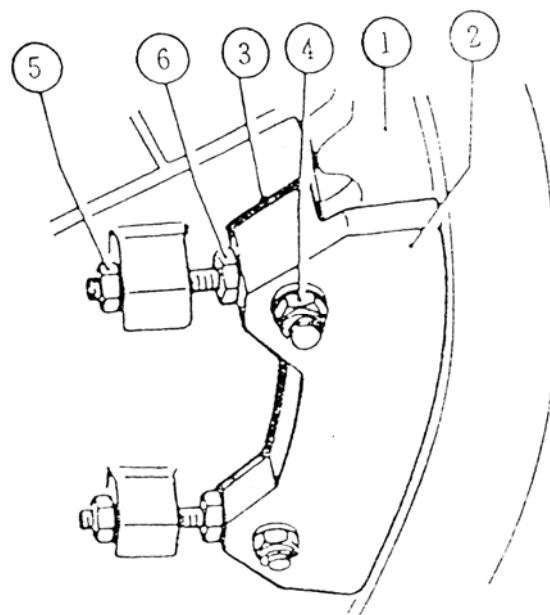

Fig. 58
8.9.4 Adjust the blade rotation circle (Fig 58)
1. Measure axial plays between the circle (Fig 58/1) and all four guides (Fig 58/2) by means of a feeler gauge. The play is 0.6-0.8mm(Fig.58/3)
2. Remove all 4 guide shims (Fig 58/3) after unscrewing the locking nuts (Fig 58/4) to get the correct play shims (Fig 58/3) Refit guides.
1. Loosen nuts (Fig 58/4 and 58/5) and adjust the guide by screwing the bolts (Fig 58).
2. Retighten all nuts. Tightening torque of nuts (Fig 58/4)=590Nm